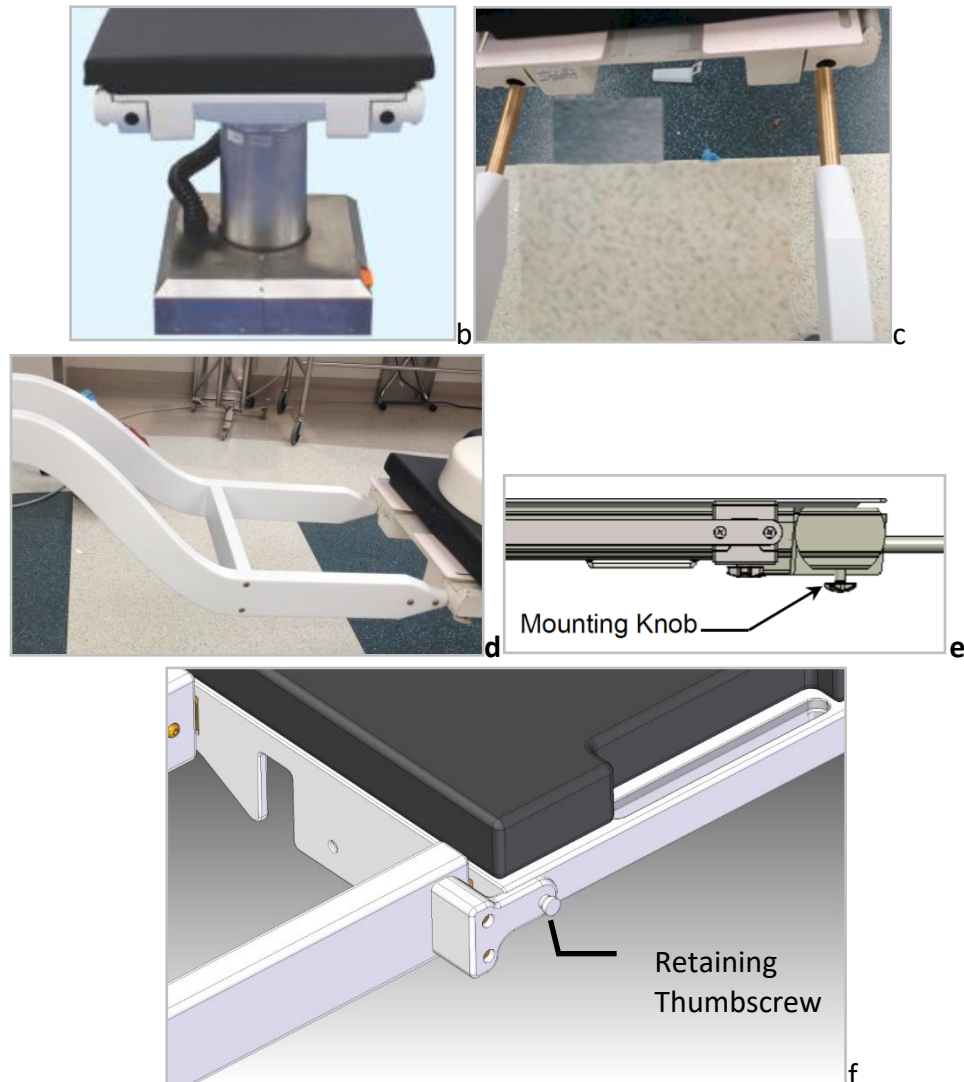

Figure 8.42: Interface Platform to IMRIS Head Rest Mounting Holes
3. Tighten the IMRIS OR table's Mounting Knob to lock the IP arm brass posts to the table (Figure 8.42 e). For the square configuration, tighten the retaining thumbscrew into the side of the table after full insertion (Figure 8.42 f).